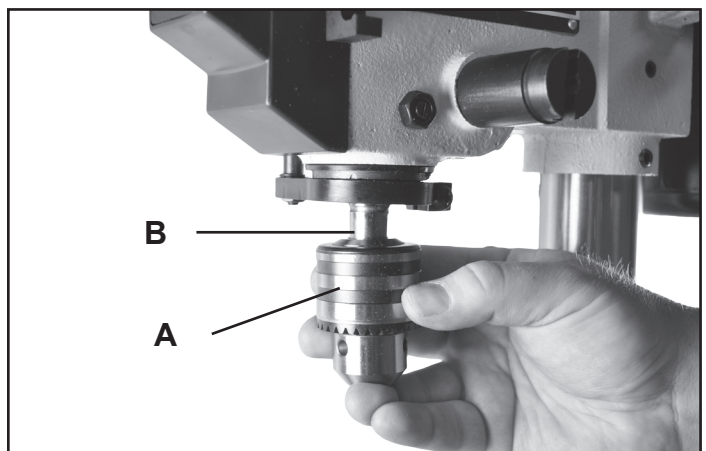

FIG. 5
5. Slide the 1/2" chuck (FIG. 5, A) over the pre-installed spindle (B). Open the chuck jaws fully and tap into place using a rubber mallet or a hammer and block of wood. This will properly seat the chuck onto the spindle.